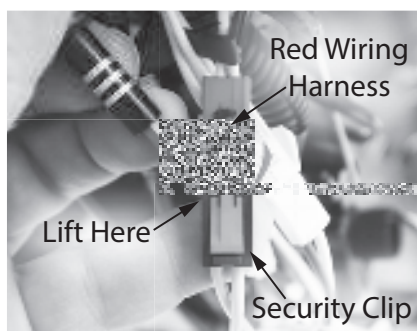

Figure 237 - Red wiring harness clip removal
- 18** Trace the yellow wires from the condensate trap to the red wiring harness and disconnect them. See Figure 237.
NOTICE: The harness uses a black security clip. Use a small flat blade screw driver to remove and keep this clip for reinstallation. See Figure 237.